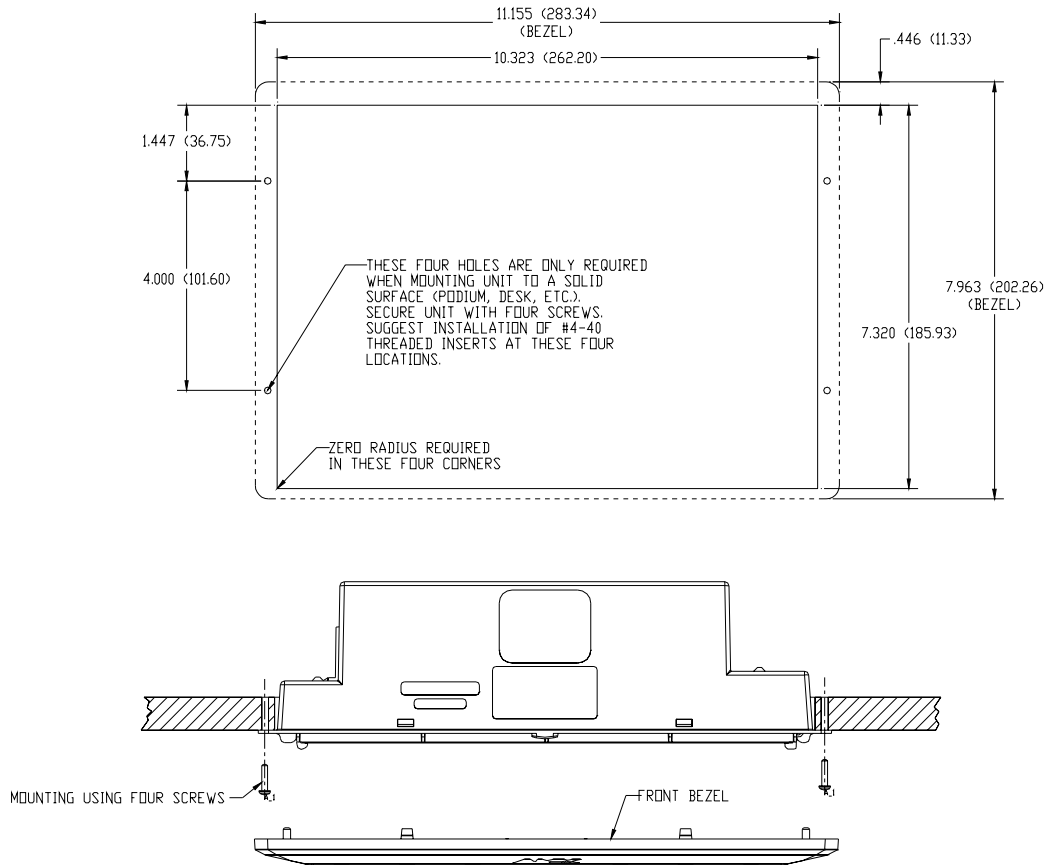

FIG. 24 NXD-1000Vi Wall Mount panel dimensions using #4-40 mounting screws
- Refer to **SP-2259-03** for detailed installation dimensions (reproduced in FIG. 24).
- 2.** Cut out the surface for the NXD Wall Mount unit using the dimensions shown in FIG. 24.